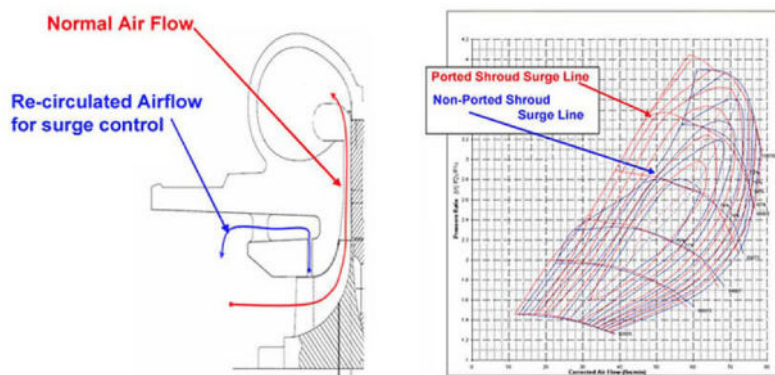

Fig. 3
- A Ported Shroud compressor (see Fig. 2) is a feature that is incorporated into the compressor housing. It functions to move the surge line further to the left (see Fig. 3) by allowing some airflow to exit the wheel through the port to keep surge from occurring. This provides additional useable range and allows a larger compressor to be used for higher flow requirements without risking running the compressor into a dangerous surge condition. The presence of the ported shroud usually has a minor negative impact on compressor efficiency.